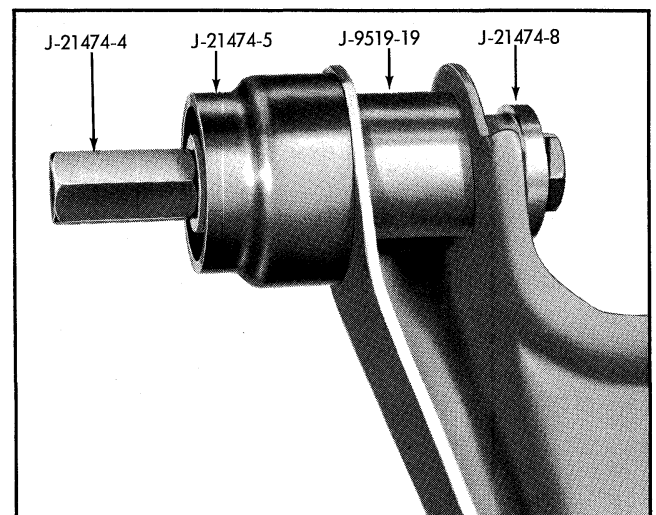

Fig. 3-20 Removing Bushing from Control Arm
3. Remove bushing using tool J-21474 as shown in Fig. 3-20.